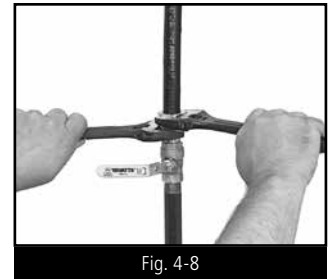

Fig. 4-8
STEP 5 WRENCH FITTING (FIG. 4-8)